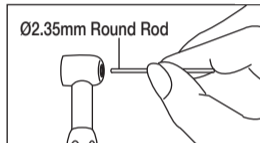

Fig. 9
4) Insert a $\text{\O}2.35\text{mm}$ round rod from the front of end. Push up the round rod, and cartridge and washer are removed from the top end of the head. (Fig. 9, 10)